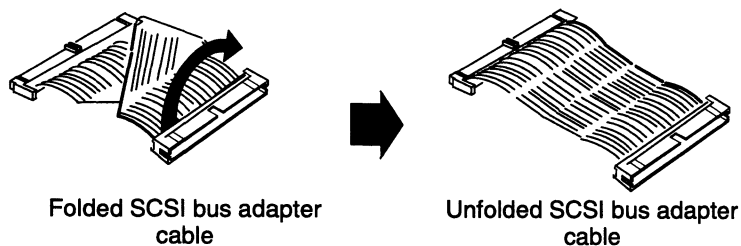
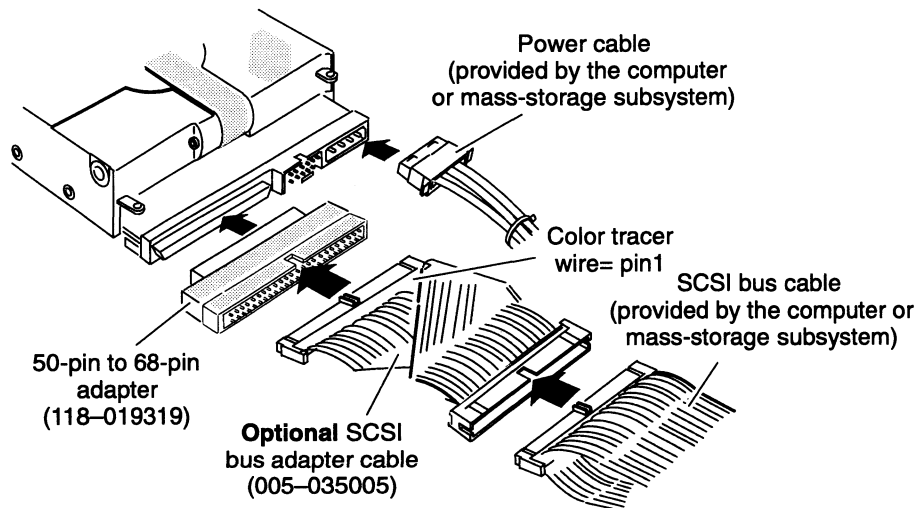

Figure 10 Unfolding the SCSI bus adapter cable (005-035005) to make a SCSI bus extender cable (Version A)
Figure 11 Connecting the SCSI bus cable, adapter, and power cable to the back of the Model 61012-D or 61014-D drive (Version A)
If the computer's SCSI bus cable does not reach the back of the drive, make an extender cable by unfolding this optional SCSI bus adapter cable, 005-035005 (Figure 10). Then connect the unfolded adapter cable between the SCSI bus cable and the disk drive.
11. If you are installing a Model 61012-D or 61014-D disk drive, carefully connect the SCSI bus cable provided by the computer or mass-storage subsystem into the 50-pin to 68-pin (118-019319) adapter (Figure 11).
12. Connect the cable (with adapter) into the SCSI bus connector on the back of the disk drive (Figure 11). The connector is keyed so that you cannot connect it incorrectly.
13. If you cannot connect the SCSI bus cable to the 50-pin to 68-pin adapter without twisting it, connect the optional adapter cable (005-035005) between the 50-pin to 68-pin adapter and the SCSI bus cable. Refer to Figure 11.
If the computer's SCSI bus cable does not reach the back of the drive, make an extender cable by unfolding the optional adapter cable (005-035005). Refer to Figure 10. Then connect the unfolded adapter cable between the SCSI bus cable and the 50-pin to 68-pin adapter (Figure 11).
- ▶ If you are installing a drive model with a -D suffix, refer to Figure 11.